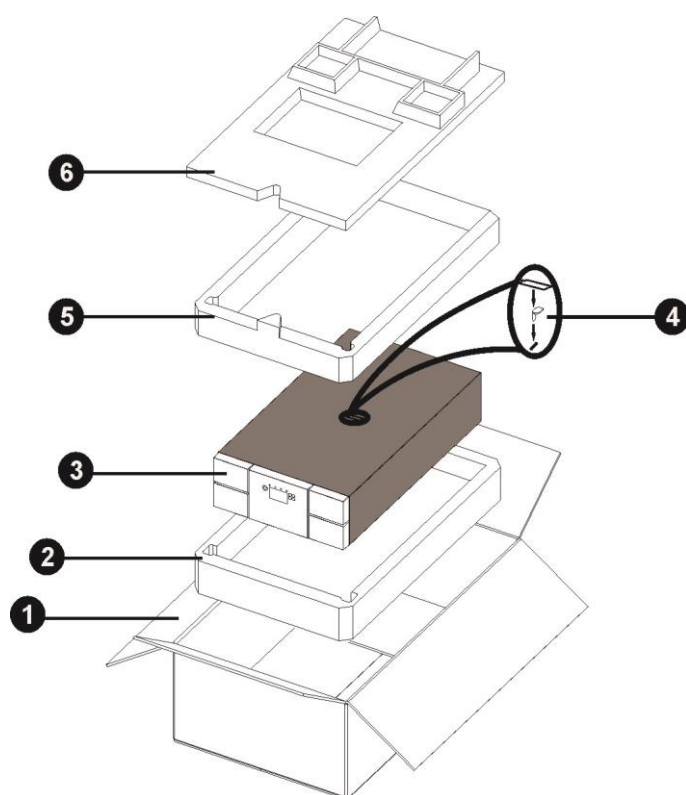

Figure 71 Re-Packaging the Library
5. Packaging the tape Library. Please use this reason original Box (see Figure 71).